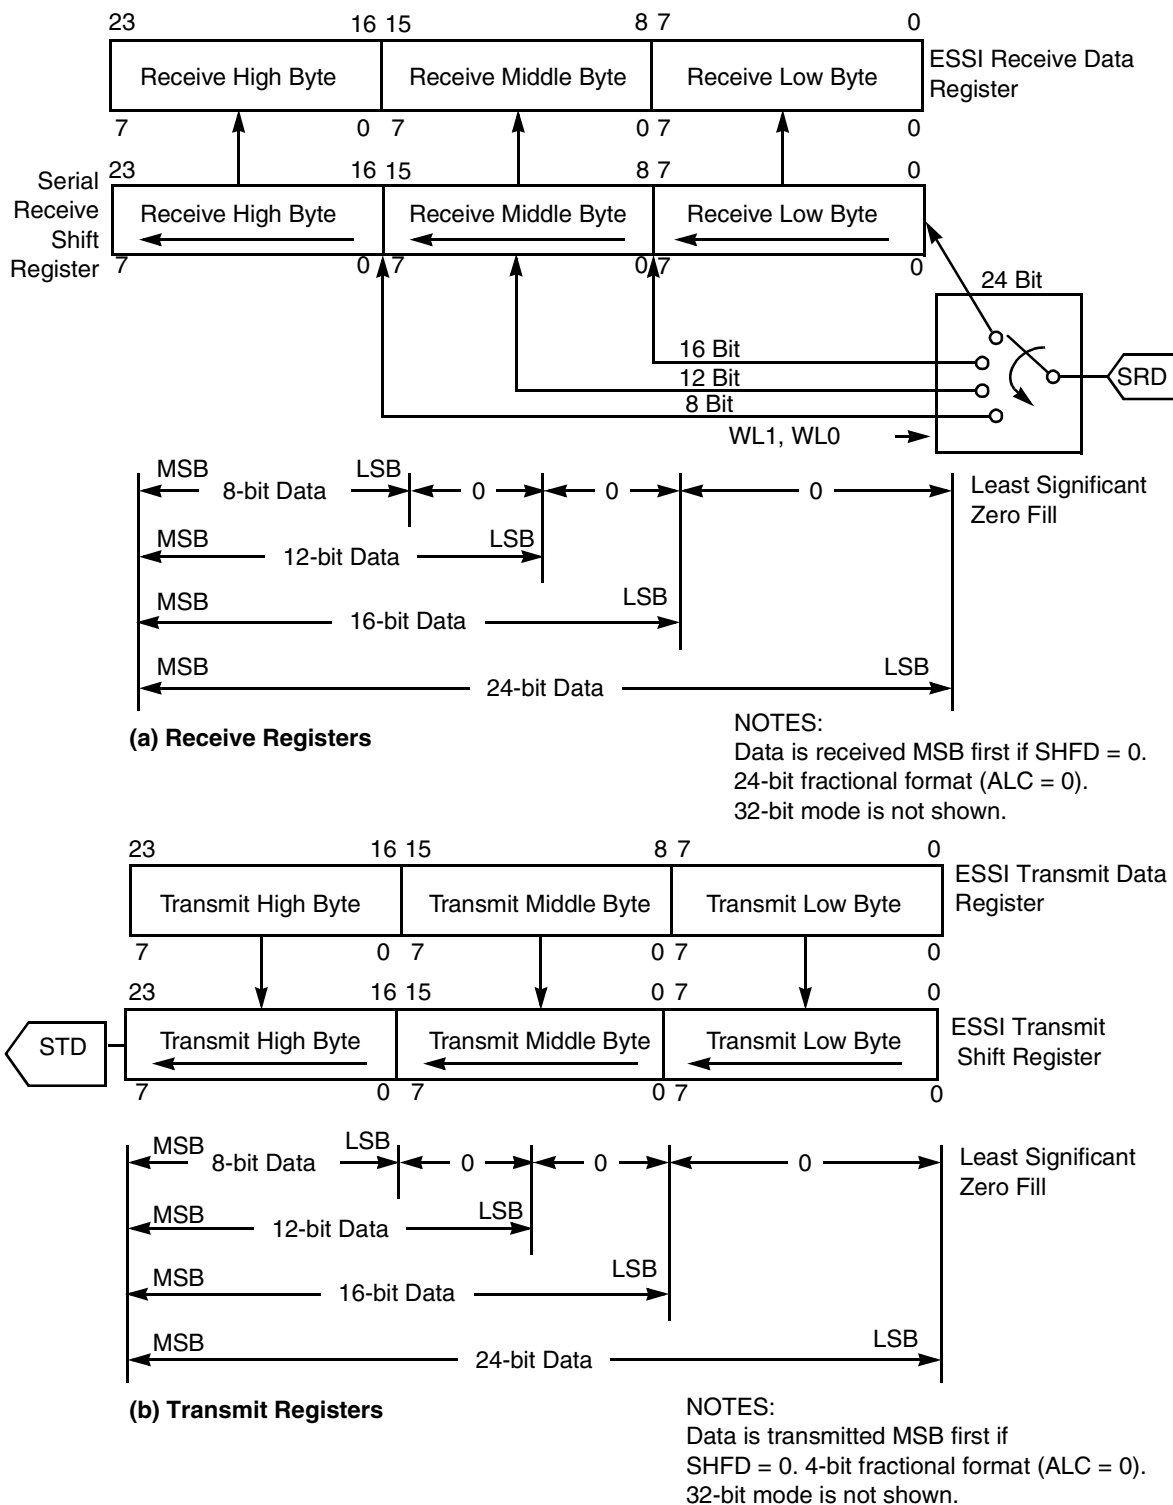
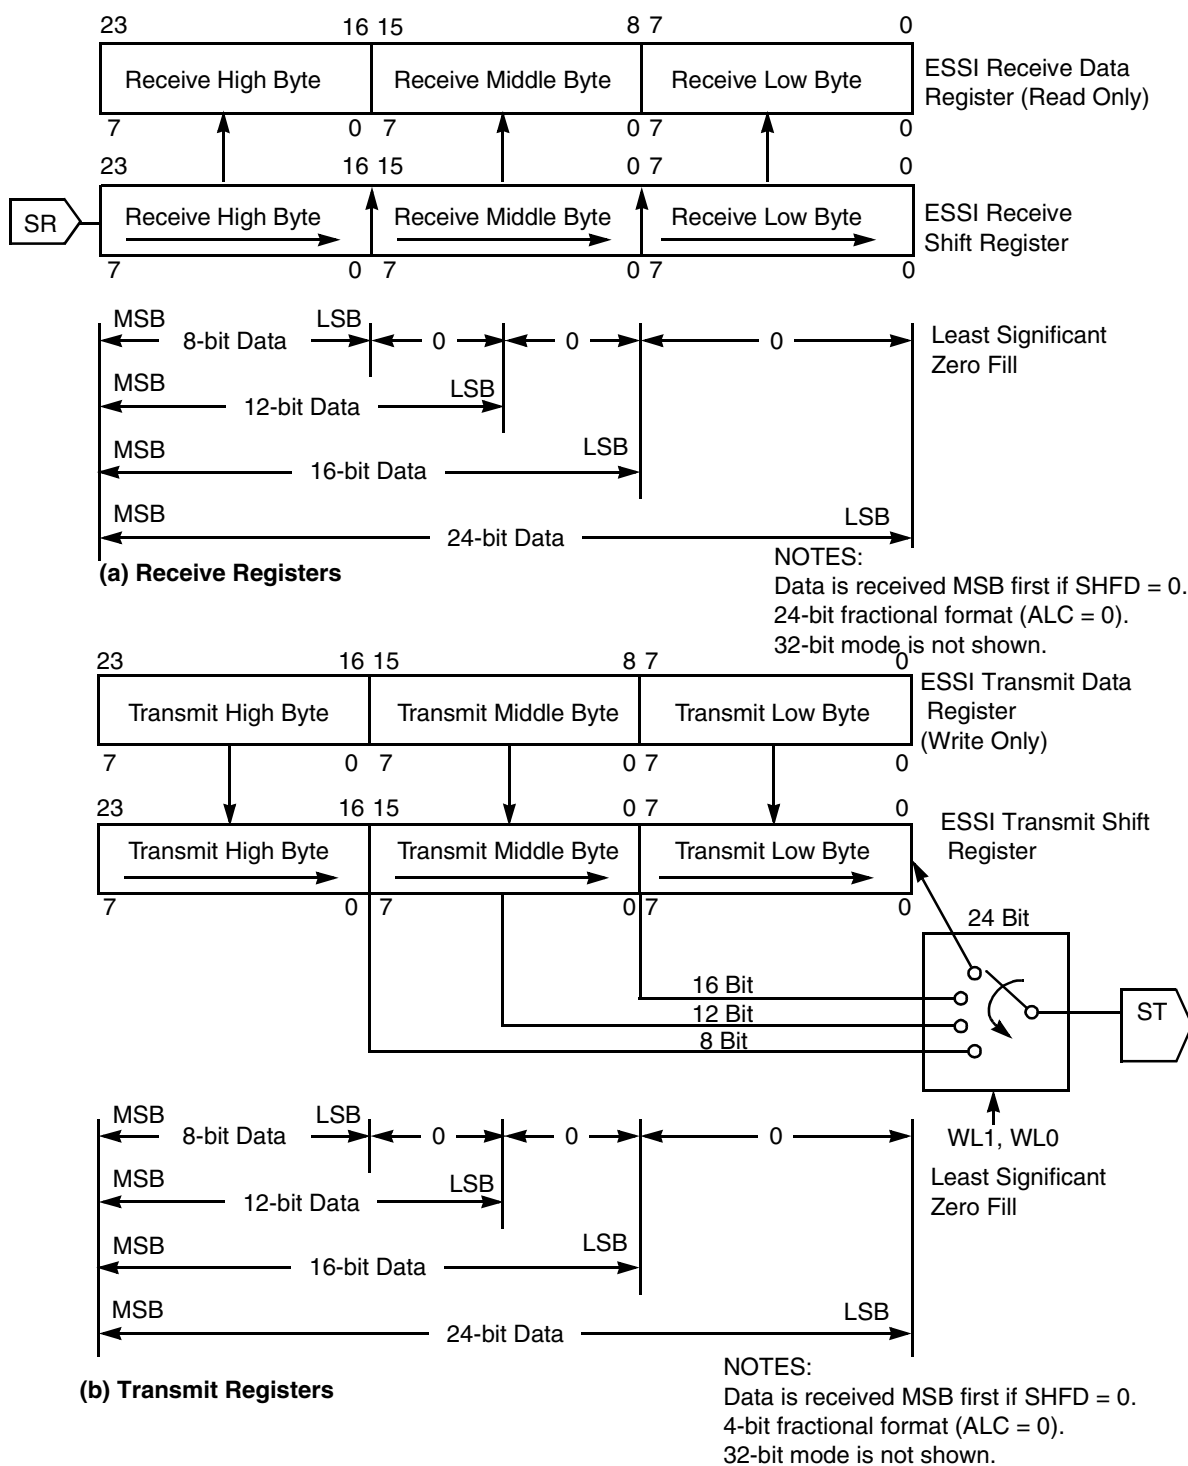

Figure 7-12. ESSI Data Path Programming Model (SHFD = 0)
Figure 7-13. ESSI Data Path Programming Model (SHFD = 1)
The 24-bit Receive Shift Register (see **Figure 7-12** and **Figure 7-13**) receives incoming data from the serial receive data signal. The selected (internal/external) bit clock shifts data in when the associated frame sync I/O is asserted. Data is received MSB first if SHFD is cleared and LSB first if SHFD is set. Data transfers to the ESSI Receive Data Register (RX) after 8, 12, 16, 24, or 32 serial clock cycles are counted, depending on the word length control bits in the CRA.
7.5.5 ESSI Receive Data Register (RX)
The Receive Data Register (RX) is a 24-bit read-only register that accepts data from the receive shift register as it becomes full, according to **Figure 7-12** and **Figure 7-13**. The data read is aligned according to the value of the ALC bit. When the ALC bit is cleared, the MSB is bit 23, and the least significant byte is unused. When the ALC bit is set, the MSB is bit 15, and the most significant byte is unused. Unused bits are read as 0. If the associated interrupt is enabled, the DSP is interrupted whenever the RX register becomes full.
The three 24-bit transmit shift registers contain the data being transmitted, as in **Figure 7-12** and **Figure 7-13**. Data is shifted out to the serial transmit data signals by the selected (whether internal or external) bit clock when the associated frame sync I/O is asserted. The word-length control bits in CRA determine the number of bits that must be shifted out before the shift registers are considered empty and can be written again. Depending on the setting of the CRA, the number of bits to be shifted out can be 8, 12, 16, 24, or 32. Transmitted data is aligned according to the value of the ALC bit. When ALC is cleared, the MSB is Bit 23 and the least significant byte is unused. When ALC is set, the MSB is Bit 15 and the most significant byte is
TX2, TX1, and TX0 are 24-bit write-only registers. Data written into these registers automatically transfers to the transmit shift registers. (See **Figure 7-12** and **Figure 7-13**.) The data transmitted (8, 12, 16, or 24 bits) is aligned according to the value of the ALC bit. When the ALC bit is cleared, the MSB is Bit 23. When ALC is set, the MSB is Bit 15. If the transmit data register empty interrupt has been enabled, the DSP is interrupted whenever a transmit data register becomes empty.
TSMA and TSMB (as in **Figure 7-12** and **Figure 7-13**) can be seen as a single 32-bit register, TSM. Bit n in TSM (TSn) is an enable/disable control bit for transmission in slot number N. When TSn is cleared, all the data signals of the enabled transmitters are tri-stated during transmit time slot number N. The data still transfers from the enabled transmit data register(s) to the transmit shift register. However, the TDE and the TUE flags are not set. Consequently, during a disabled slot, no transmitter empty interrupt is generated. The DSP is interrupted only for enabled slots. Data written to the transmit data register when the transmitter empty interrupt request is serviced transmits in the next enabled transmit time slot. When TSn is set, the transmit sequence proceeds normally. Data transfers from the TX register to the shift register during slot number N, and the TDE flag is set. The TSM slot mask does not conflict with the TSR. Even if a slot is enabled in the TSM, you can chose to write to the TSR to tri-state the signals of the enabled transmitters during the next transmission slot. Setting the bits in the TSM affects the next frame transmission. The frame being transmitted is not affected by the new TSM setting. If the TSM is read, it shows the current setting.
RSMA and RSMB (as in **Figure 7-12** and **Figure 7-13**) can be seen as one 32-bit register, RSM. Bit n in RSM (RSn) is an enable/disable control bit for time slot number N. When RSn is cleared, all the data signals of the enabled receivers are tri-stated during time slot number N. Data transfers from the receive data register(s) to the receive shift register(s), but the RDF and ROE flags are not set. Consequently, during a disabled slot, no receiver full interrupt is generated. The DSP is interrupted only for enabled slots. When RSn is set, the receive sequence proceeds normally. Data is received during slot number N, and the RDF flag is set.